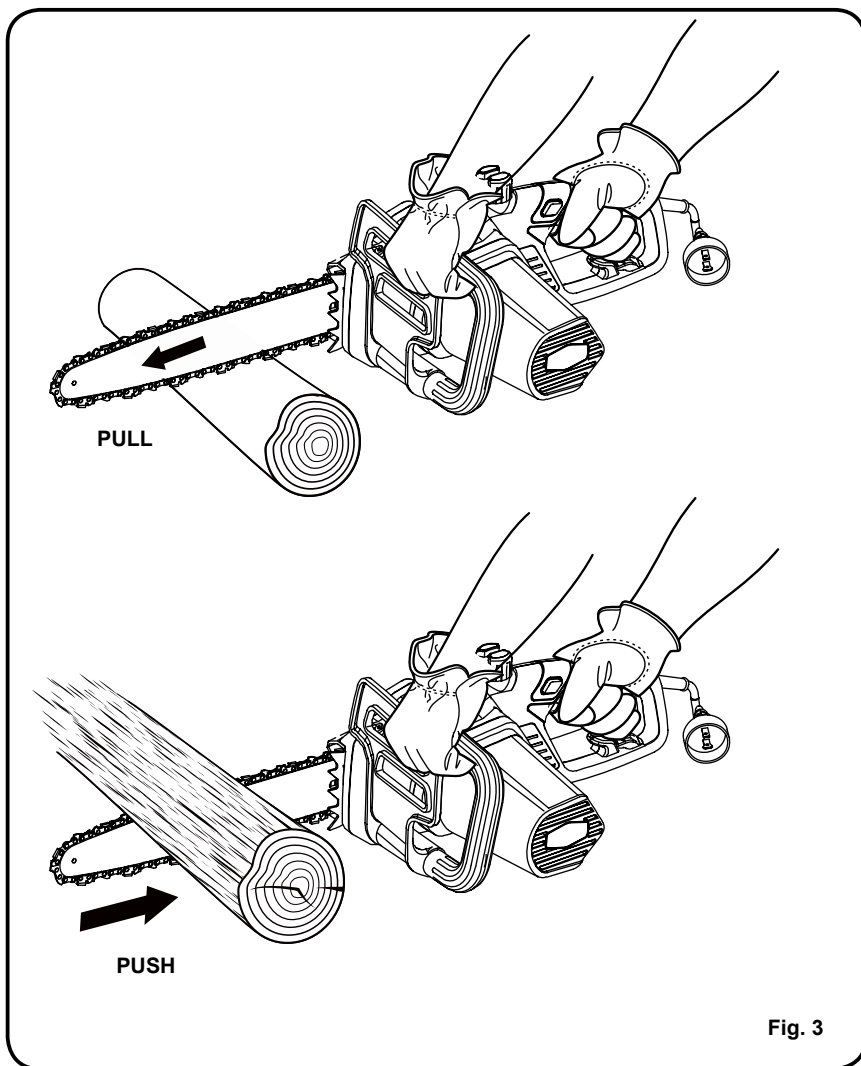

Fig. 3
- **Push and Pull** — This reaction force is always opposite to the direction the chain is moving where contact is made with the wood. Thus, the operator must be ready to control the **PULL** when cutting on the bottom edge of the bar, and the **PUSH** when cutting along the top edge. (See Fig. 3)